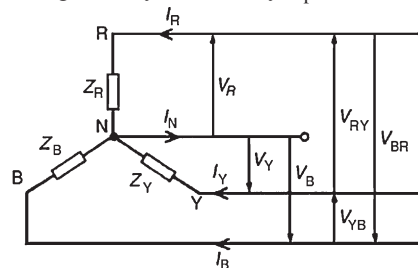

Figure 20.3
- (i) A **star-connected load** is shown in Fig. 20.3, where the three line conductors are each connected to a load and the outlets from the loads are joined together at N to form what is termed the **neutral point** or the **star point**.
- (iv) From Fig. 20.3 it can be seen that the phase currents (generally denoted by I_p) are equal to their respective line currents I_R , I_Y and I_B , i.e. for a star connection: